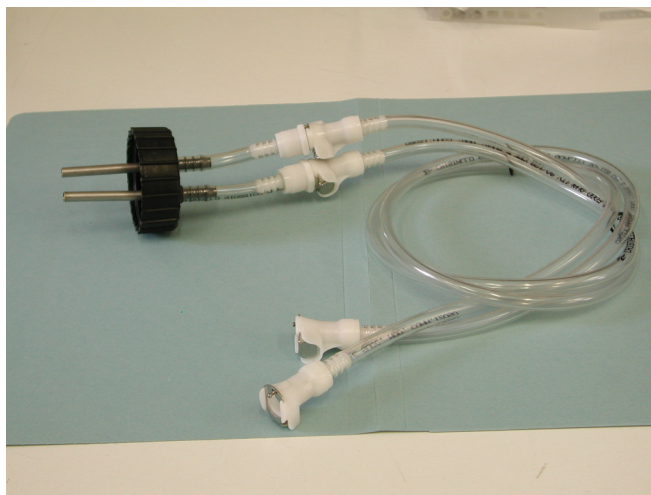

fig. 19
which must be connected to the respective plugs as shown in **fig 19**)
a) If the tank supplied with the instrument is used, the probe which is supplied must be used (**fig. 19**); which is equipped with two tubes with connector